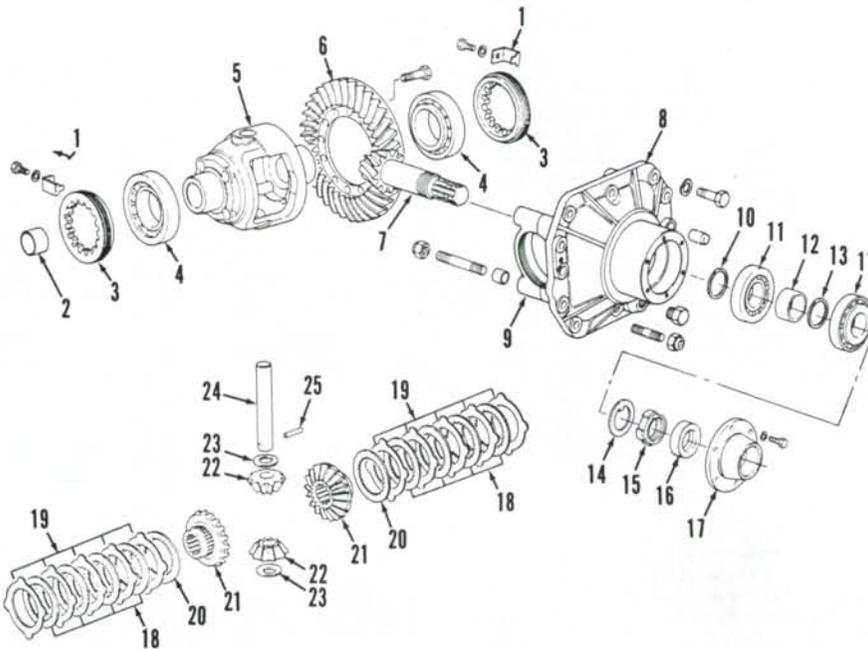

Fig. 35—Exploded view of Carraro Type 709/19 front drive axle limited slip differential assembly.
**42. OVERHAUL DIFFERENTIAL.** Place differential assembly in a stand with flange end pointing downward. Put identification marks on bearing caps and carrier housing so caps can be reinstalled in their original positions. Remove adjuster locking plates (1—Fig. 35), bearing caps (9) and adjuster rings (3). Remove differential from carrier.
Correct end play is 0.03-0.20 mm (0.001-0.008 inch). End play can be adjusted by replacing 2.8 mm thick spacer (20—Fig. 35) with a 2.9 mm thick spacer plate. Renew friction plates if end play is still not within specified tolerance.
**44. PINION SHAFT PROTRUSION AND BEARING PRELOAD.** To set pinion shaft protrusion, install bearing cups in carrier housing. Install carrier bearing caps (9—Fig. 35) and tighten nuts to 198 N·m (145 ft.-lbs.) torque. Install bearing cones in carrier using a bolt, flat washers and nut (Fig. 38) to hold bearings in place. Tighten nut and bolt until bearing cones are difficult to turn.
To determine correct thickness of shims (10—Fig. 35) required to provide desired pinion shaft protrusion, use the
following calculations: Subtract diameter of shaft (B—Fig. 38) from depth gage measurement (C). Add this figure to one-half the diameter of carrier bearing bore (A). The result is dimension (E). Then subtract dimension etched on gear end of pinion shaft (dimension is in millimeters) from dimension (E). The resulting dimension will be correct shim (10—Fig. 35) thickness to install to properly set pinion shaft protrusion.